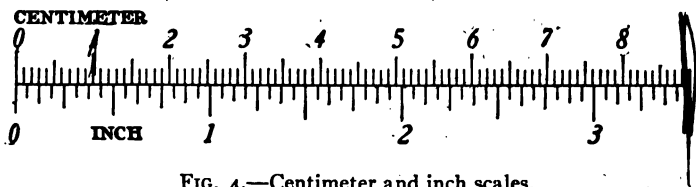

FIG. 4.—Centimeter and inch scales.
11. The Standard Meter.—The standard unit of *length* in the metric system is the *meter*. It is the distance, at the temperature of melting ice, between two transverse parallel lines ruled on a bar of platinum (see Fig. 3), which is kept in the Palace of the Archives in Paris. Accurate copies of this and other metric standards are also kept at the Bureau of Standards at Washington, D. C. Fig. 4 shows the relation between the inch and the centimeter.